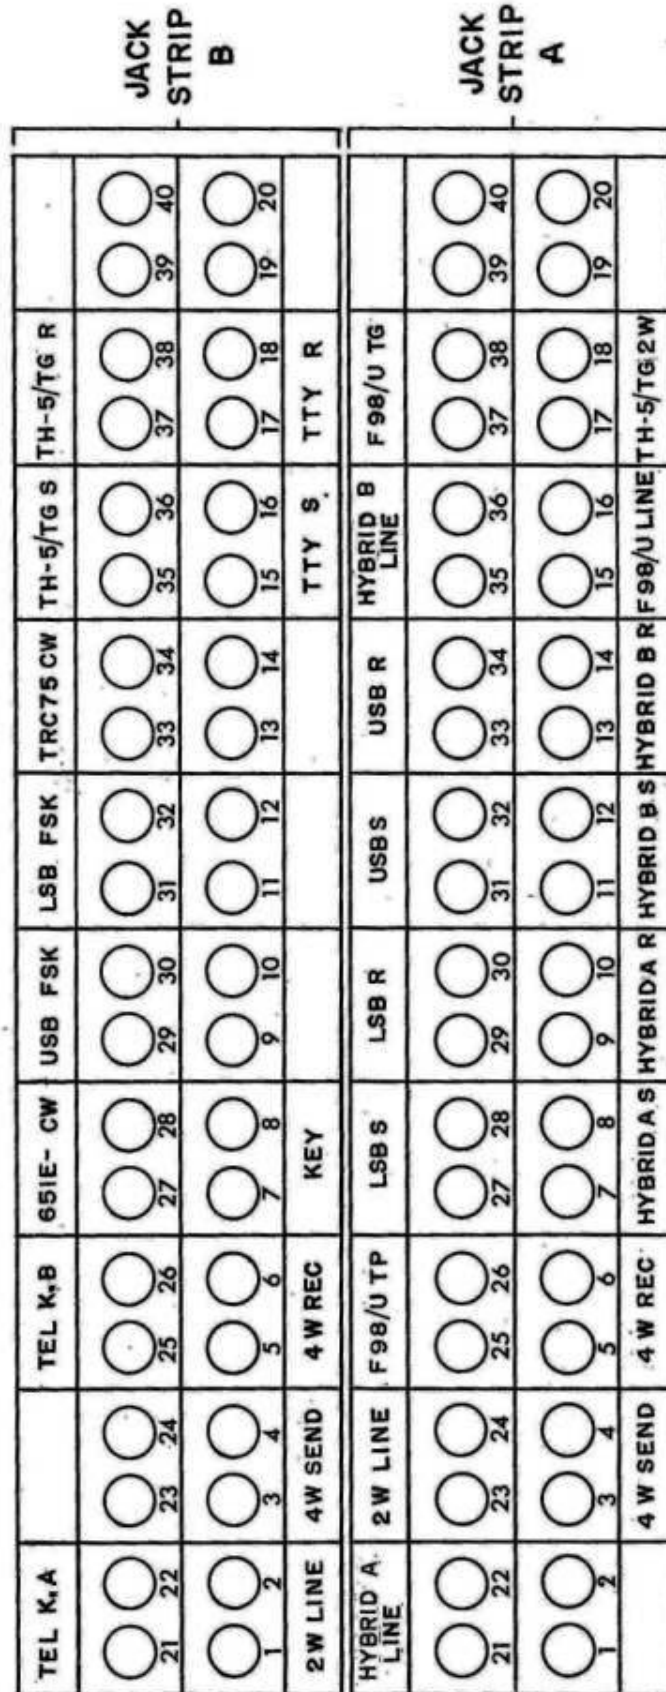

FIG 19 - PATCHING PANEL (JACK FIELD)
- (j) Check that circuit patching is arranged, in accordance with the desired traffic requirements (see para 128 and Fig 19). Connect any external lines that are to be used (static operation). Refer to para 129.
#### NORMAL PATCHING CIRCUITS (See Fig 19 and key)
# KEY TO FIG 19